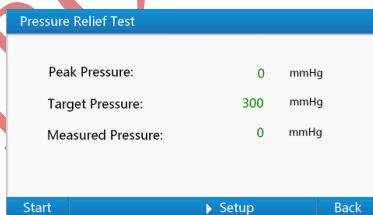

Figure 12 Pressure relief test interface
- 1) Use up or down key in **"Pressure Test Menu"** to **"Pressure Relief"**, then press **"Enter Key"** to **"Pressure Relief Test"** interface shown as Figure 12. As a shortcut, you can use number key **"2"** to this interface quickly. In this interface, Pressing **"Return Key"** can get back to **"Pressure Test Menu"**.